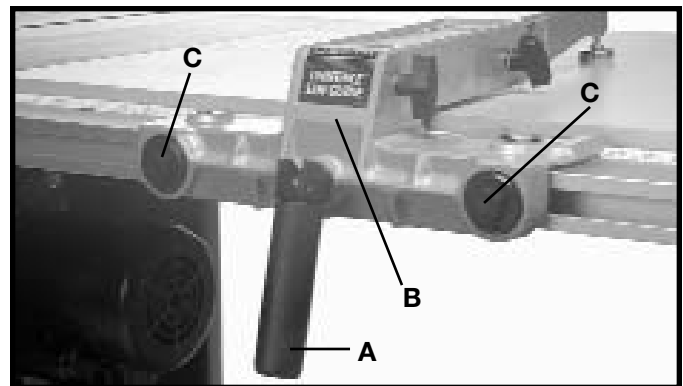
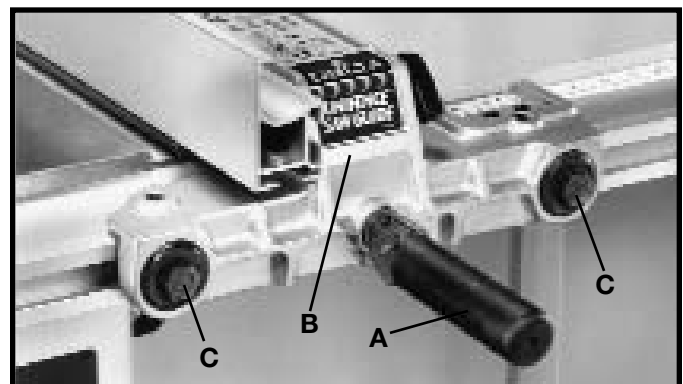

Fig. 50
Fig. 51
When the fence locking handle (A) is pushed to the down position, as shown in Fig. 50, the fence body (B) should be completely clamped to the guide rail. If the fence body (B) is not completely clamped to the guide rail when the handle (A) is in the position shown in Fig. 50, lift up on locking handle (A) Fig. 51, and slightly tighten two adjustment plugs (C) using the arbor wrench or 7/8" wrench. Adjustment plugs (C) should be tightened an equal amount. Check to see if the fence body (B) is completely fastened to the rail by pushing down on locking lever (A). Adjust further if necessary. **IMPORTANT: AFTER ADJUSTING THE CLAMPING ACTION OF THE FENCE LOCKING HANDLE, CHECK TO SEE IF THE FENCE IS PARALLEL TO THE MITER GAUGE SLOT AND ADJUST IF NECESSARY.**